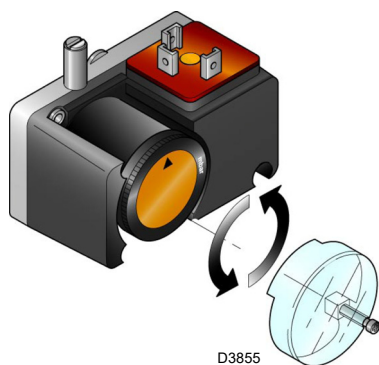

Fig. 34
- Adjust the pressure switch for the valve leak detection control device (PVP Kit)(Fig. 34 at page 34), if present, according to the instructions supplied with the Kit itself.
Adjust the pressure switch for the valve leak detection control device (PVP Kit)(Fig. 34), if present, according to the instructions supplied with the Kit itself.